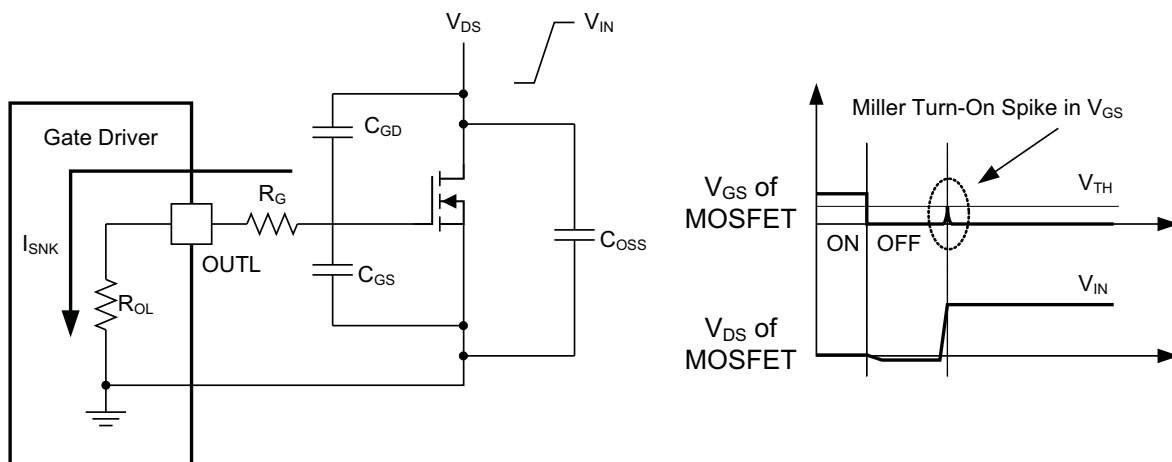

Figure 24. Very Low Pull-Down Impedance, 4-A/8-A Asymmetrical Drive (output stage mitigates Miller turn on effect)
An example of a situation where Miller turn on is a concern is synchronous rectification (SR). In SR application, the dV/dt occurs on MOSFET drain when the MOSFET is already held in off state by the gate driver. The current discharging the C_{GD} Miller capacitance during this dV/dt is shunted by the pull-down stage of the driver. If the pull-down impedance is not low enough then a voltage spike can result in the V_{GS} of the MOSFET, which can result in spurious turn-on. This phenomenon is illustrated in Figure 24. UCC27512 offers a best-in-class, $0.375\text{-}\Omega$ (typ) pull-down impedance boosting immunity against Miller turn on.